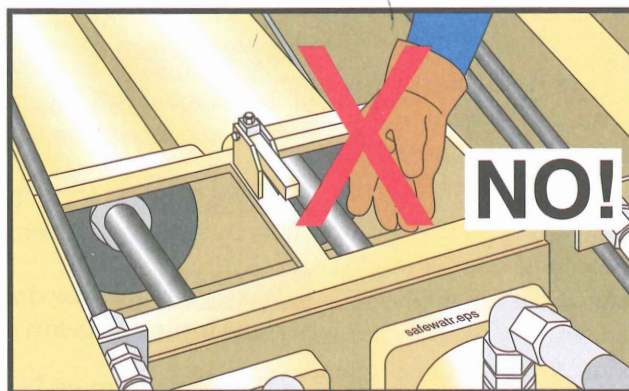

Figure 29
9.3 **WARNING** Crushing and amputation hazard! Do not remove the water box guards for cleaning. Clean the water box with water jets only. **Do not put your hands or any other body part into the water box for cleaning or at any other time when the hydraulic system is operational (Figure 29).**